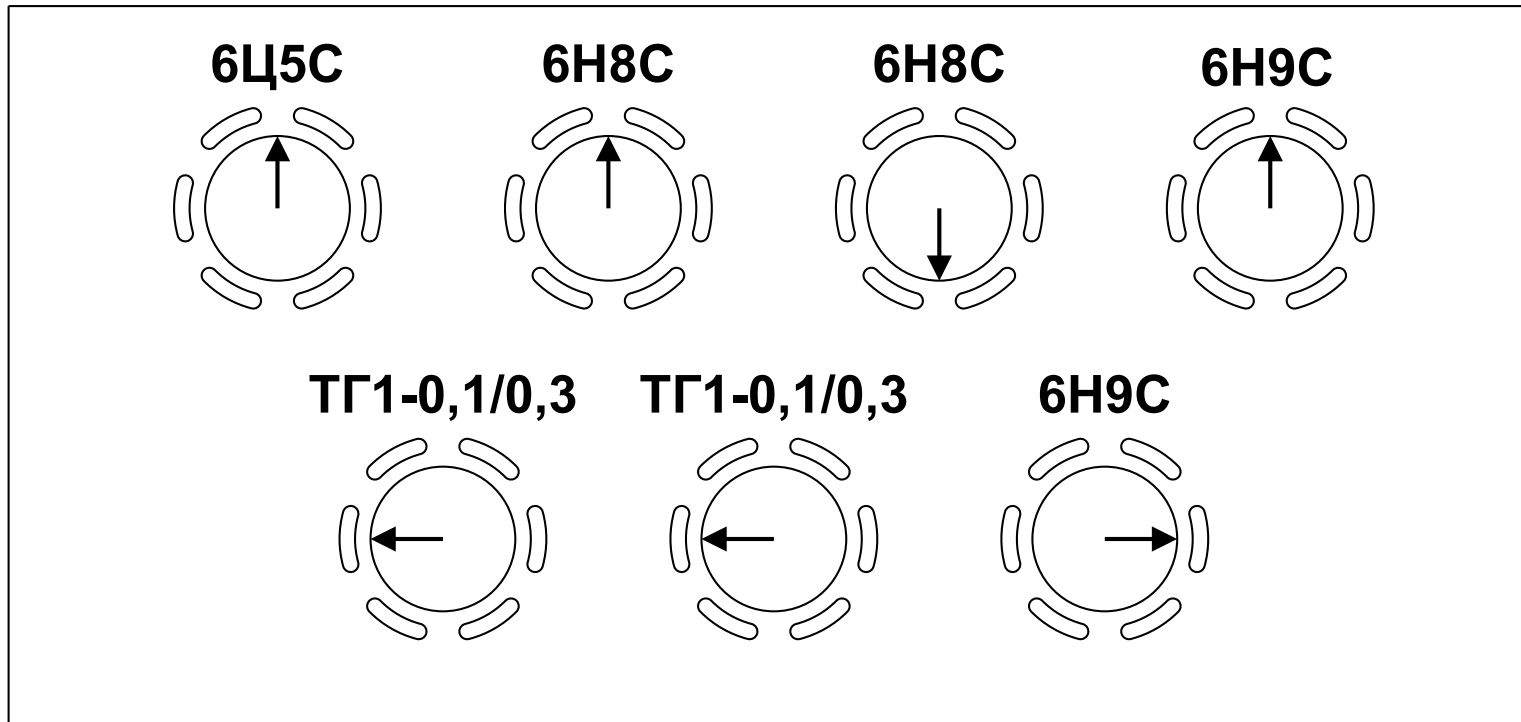

Fig. 3. Installation of the tubes.
- Install the radio tubes in the synthesizer on corresponding sockets. The position of the lamp keys is indicated by arrows (Fig. 3.);